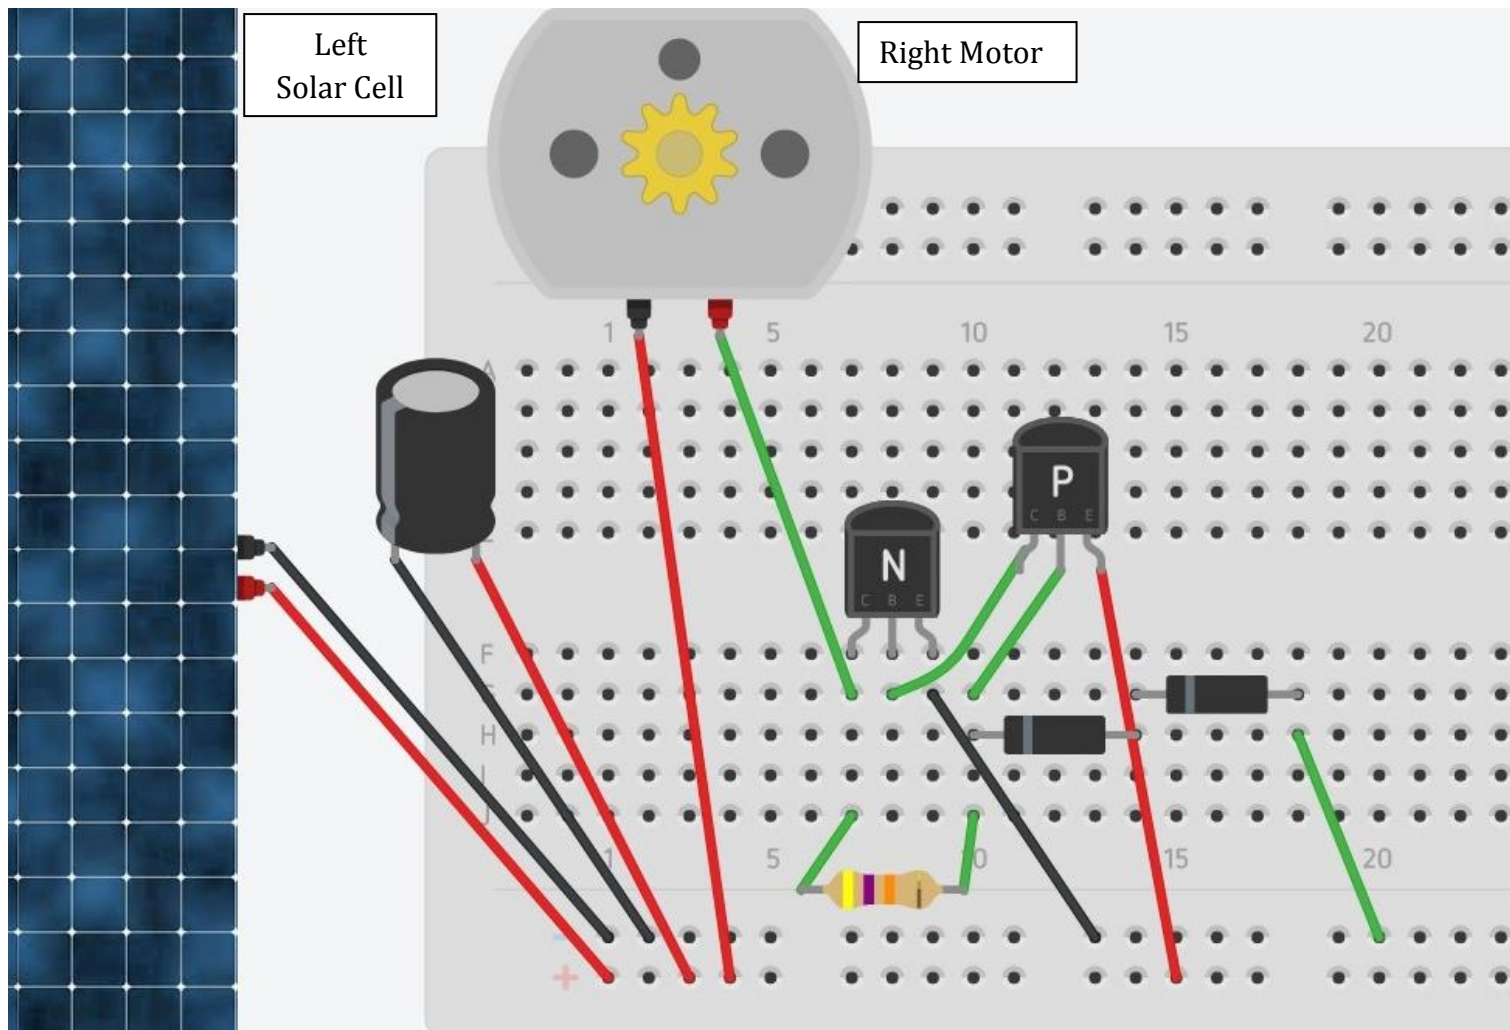
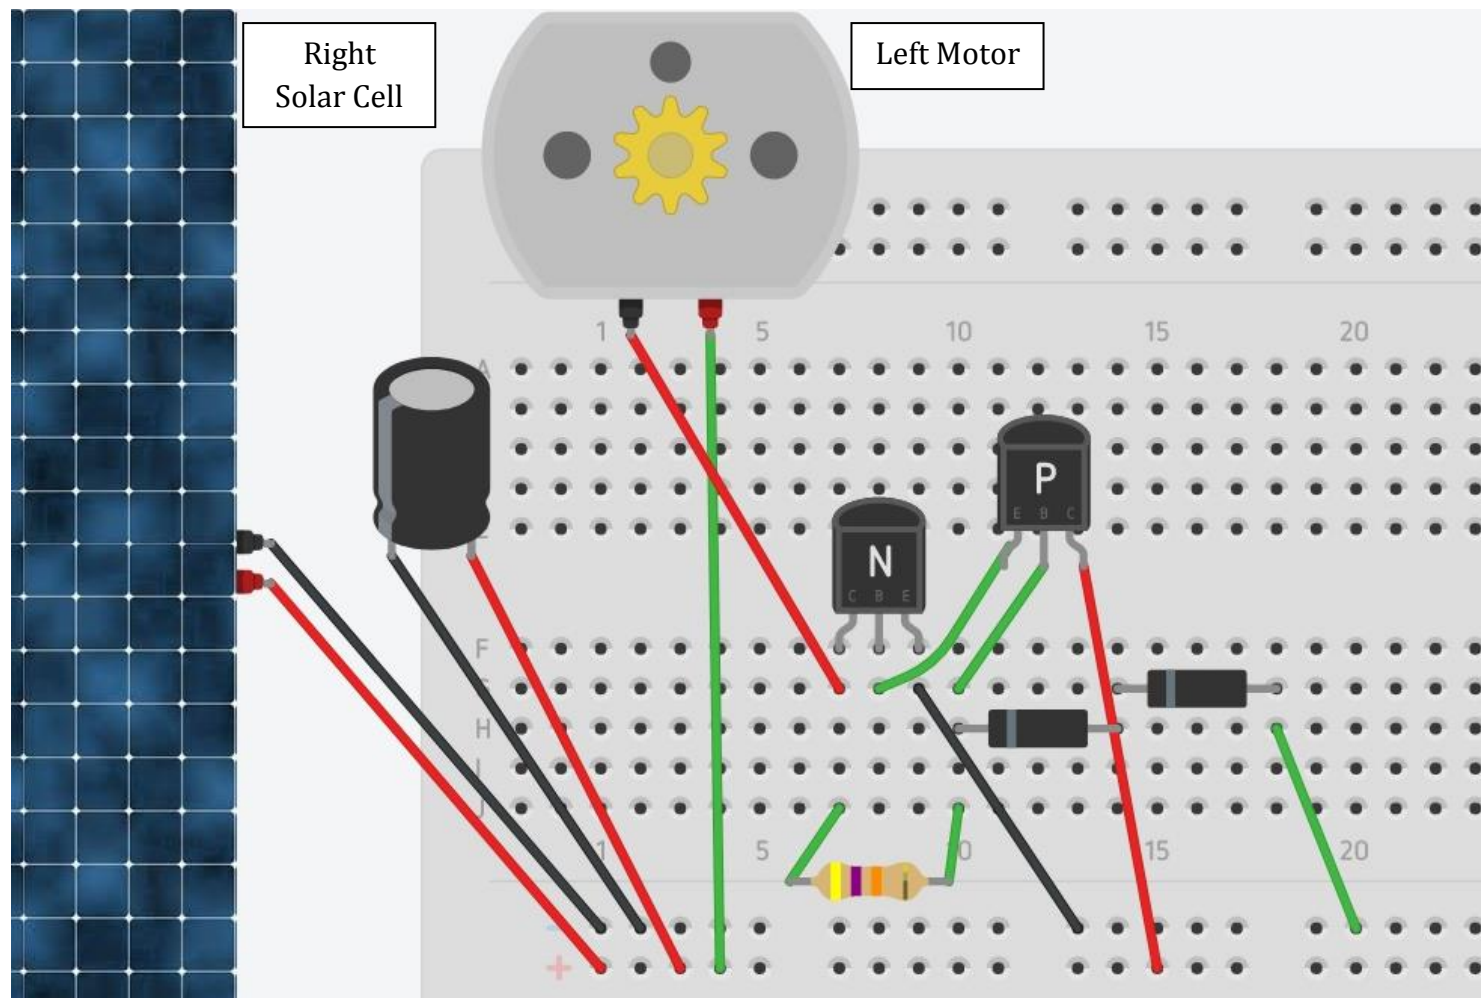

Figure 29: Electronic circuite of first motor.
Figure 30: Electronic circuit of second motor
Follow the diagrams of Figs. 29 and 30 in order to construct the electronic circuit.
The right motor should be connected to the solar cell which is leaning to the left (see Figs. 29 and 33) while the left motor should be connected to cell which leans towards right. The reason for doing so is to enable the bot to follow the sun. When the right cell is towards the light then the left wheel rotates faster than the right wheel and as a result the bot turns towards the sun. The same happens with the other cell and wheel. As a result the bot will always follow the sun.
- In order for the bot to move forward, one wheel must rotate clockwise while the other one must turn anticlockwise. In Fig. 29, the left terminal of the motor is connected to “+” slot on the breadboard, while the right terminal is connected to the “-” slot on the breadboard (via the bc 337 transistor). In Fig. 30, the left terminal of the motor is connected to the “-” while the right one is connected to the “+” on the breadboard.